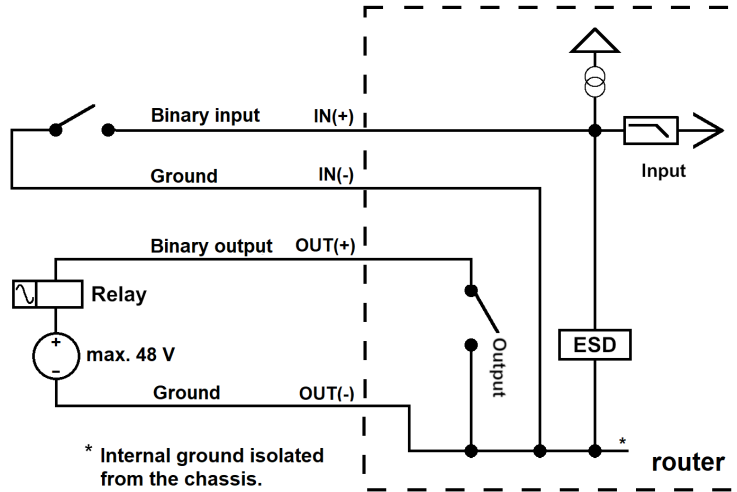

Figure 13: Functional Scheme of the Digital Interface
- i** The thread of the SMA connector for the WiFi antenna is connected to the internal ground, see Figure 13.
The power supply (common pole) is not connected to the metal case of the router nor to the internal ground, see Figure 13.
The I/O user interface is designed for digital input processing and digital output control. For detailed electrical parameters see Chapter 4.5. The functional scheme of connection for the digital input and digital output is in Figure 13.